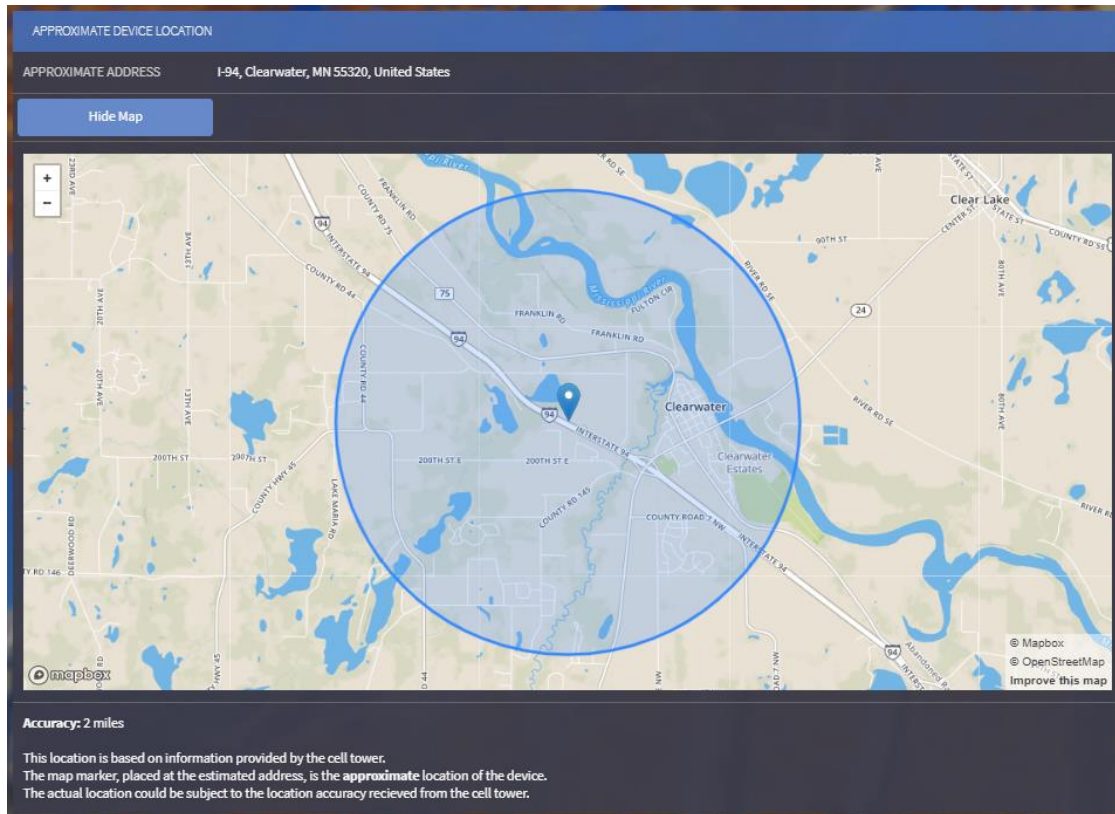

Figure 26
2. The "APPROXIMATE DEVICE LOCATION" section can be used to view ema's location. Reference Figure 26.